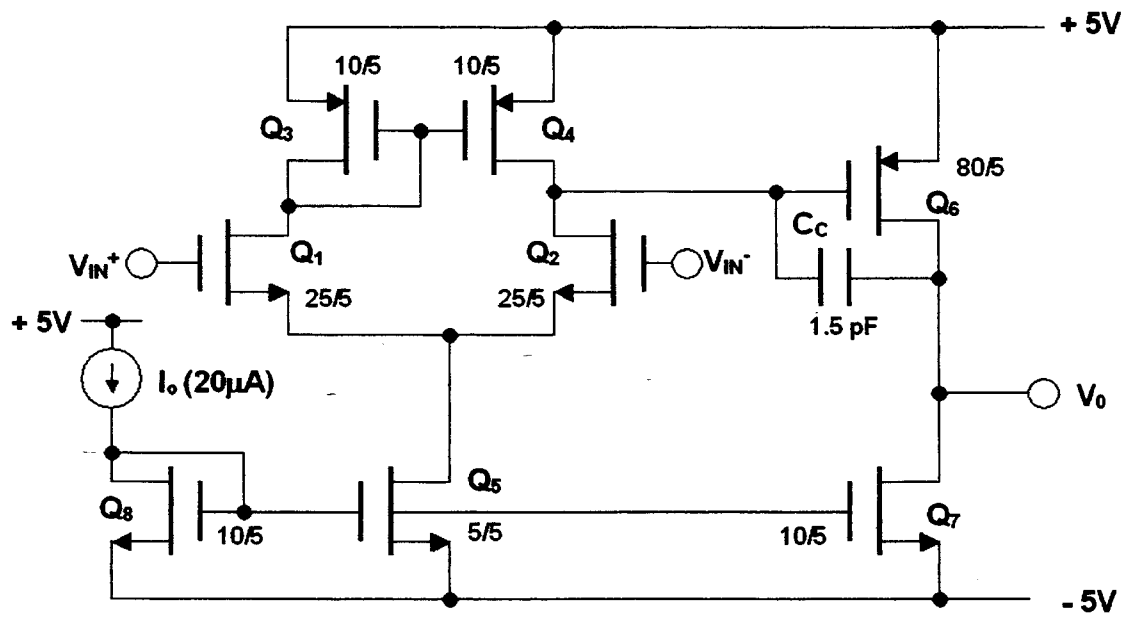

Figure 4.2
- (b) Give one advantage and one disadvantage of a single stage over a two-stage op-amp. Figure 4.2 shows a two-stage CMOS op-amp. Estimate the low-frequency differential voltage gain and gain-bandwidth product of the amplifier. Aspect ratios of all devices are shown on the circuit. Assume all bulk effects are negligible. Device model parameters are given below. [7]
- The gain-bandwidth product, voltage gain and slew rate of the op-amp of Figure 4.2 are below the desired specification. Explain qualitatively a minimum sequence of parameter changes so that the op-amp design satisfies all of its specifications.
Explain why a resistor in series with the compensation capacitor C in Figure 4.2 can significantly improve the amplifier's phase margin. [3]